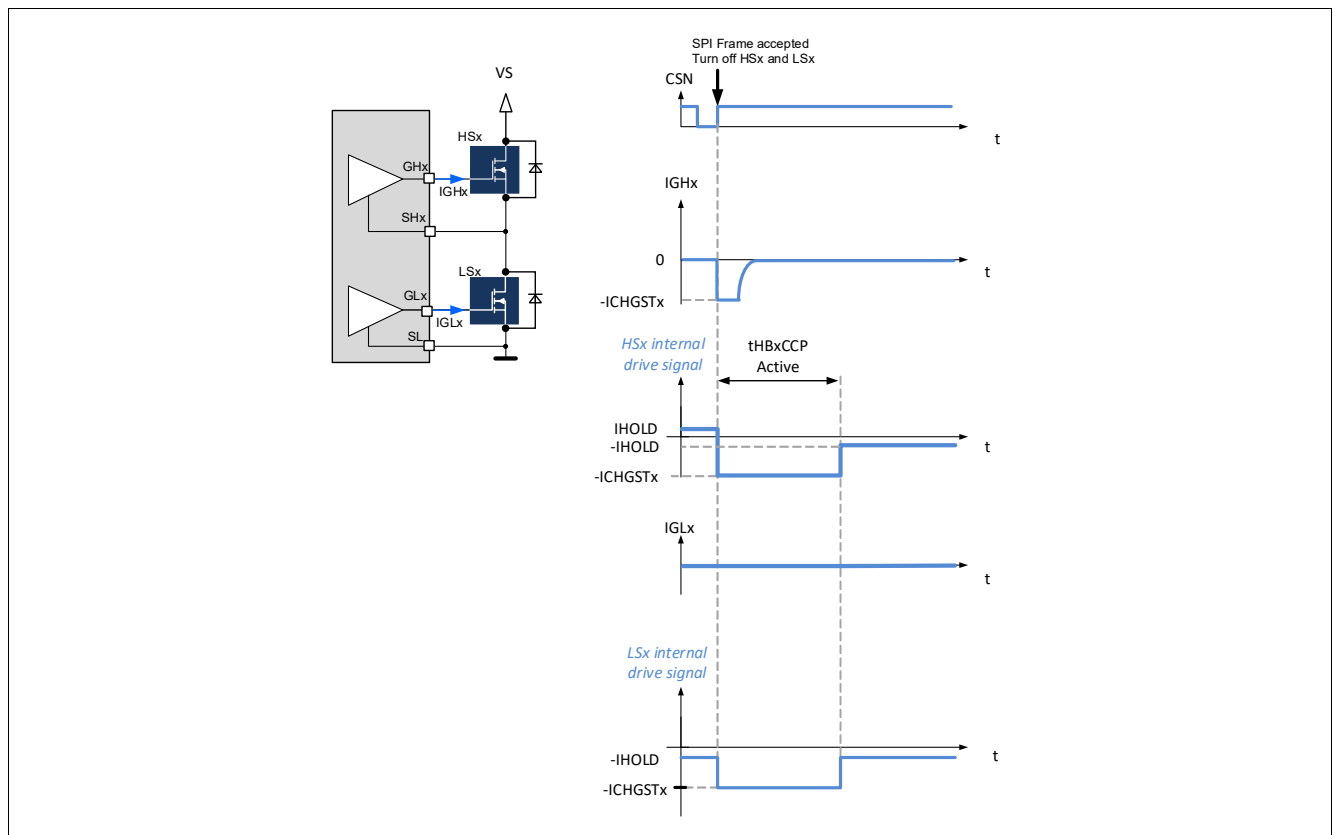

Figure 45 Turn-off of the high-side and low-side MOSFETs of a half-bridge
- The gate of HSx and LSx are discharged with the current $-ICHGSTx$ for the duration $t_{HBxCCP\ ACTIVE}$ (Figure 45).